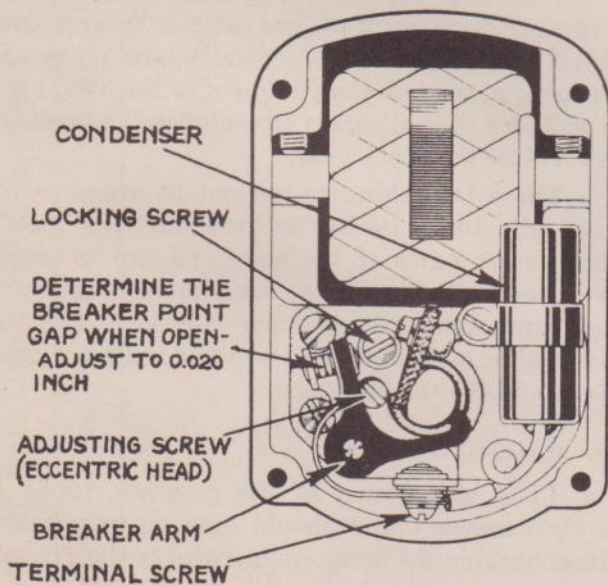

FIG. 27 MAGNETO WITH END COVER REMOVED
a. Field adjustment of the magneto (256) is rarely necessary and should only be undertaken after checking the items enumerated in the Trouble Chart below. Timely location of the real engine trouble prevents misadjustment of the magneto parts which are usually in good condition.
2. If no spark results after several attempts, then remove the magneto end cover and compare the arrangement of parts with the drawing of Figure 27. If the contact points are found pitted, they should be resurfaced using the magneto file (463) and the crocus cloth (460) in the tool bag. If the points are very badly pitted or worn, they should be replaced. A set of new magneto breaker points are supplied with the spare parts in container (290). To replace these points, remove the locking screw of the contact support bracket and the terminal screw which frees the breaker arm. Insert the new breaker points and replace the screws. The breaker point gap must be adjusted after either resurfacing or replacement of the points. Loosen the locking screw and turn the eccentric head adjusting screw until the proper gap is obtained. This gap should be .020" at full separation. Before making the adjustment, turn the engine around slowly until the points open up. Measure the gap with the feeler gauge (466) when the points are farthest apart. The cam felt wick (256C) if dry or hard, should be replaced with the wick supplied in the container (290).